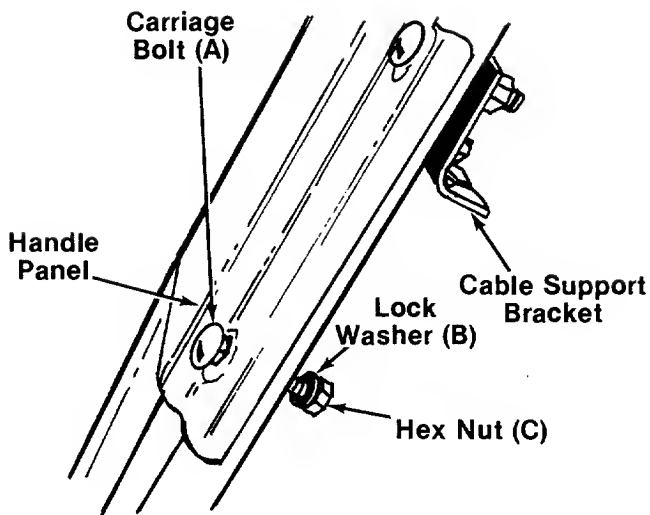

FIGURE 4.
4. Place the handle panel in position on the upper handles. Secure in position with four carriage bolts (A), lock washers (B) and hex nuts (C). See figure 4.